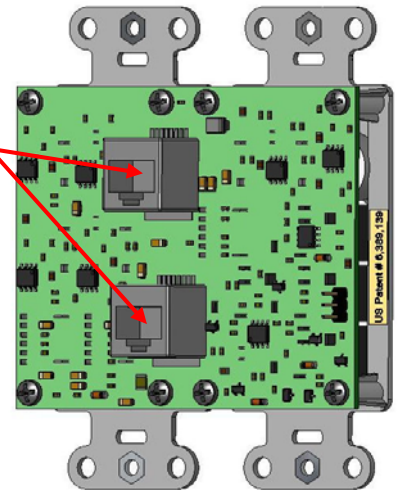

Figure 2
- C. Pull the Category 5 cables out through the low voltage bracket and plug them into the RJ45 Cat 5e jacks on the rear of the Flush Mount Triple Source Input (see **Figure 2**). Then mount the Flush Mount Triple Source Input into the low voltage bracket and cover with a wall plate.